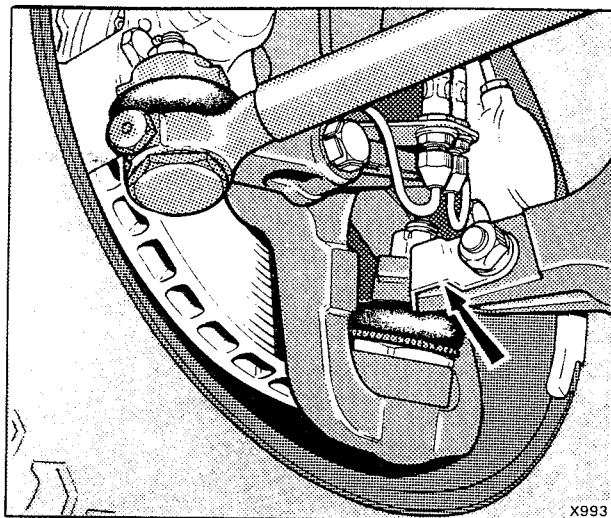

Fig. H21 Steering lock-stop packing
7. Ensure that the right-hand road wheel is limited in its travel by the lock stop on the left-hand triangle lever. If clearance exists between the yoke and triangle lever end, a suitable lock stop packing should be fitted to the end of the triangle lever (see Fig. H21).